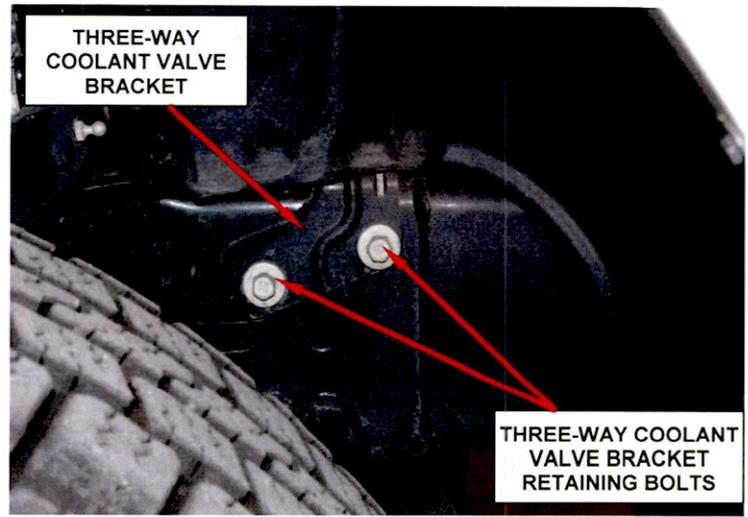

Figure 4 – Retaining Bolts Viewed Through Right Front Wheel Opening
6. Remove and save the three-way coolant valve bracket retaining bolts at the right frame rail (Figure 4).